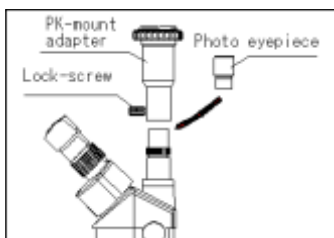

Fig. 7
- 2)Connect the PK-mount adapter with the photo eyepiece, and then tighten the lock-screw. (Fig.7)